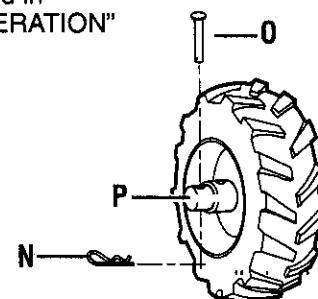

Figure 2-2: To roll the tiller, move both wheels to the FREEWHEEL position.
2. Remove the hair pin cotter (N, Figure 2-2) and clevis pin (O). Slide the wheel inward on the axle (P) and reinstall the clevis pin and cotter through the axle only (not through the wheel hub). Repeat on other wheel.